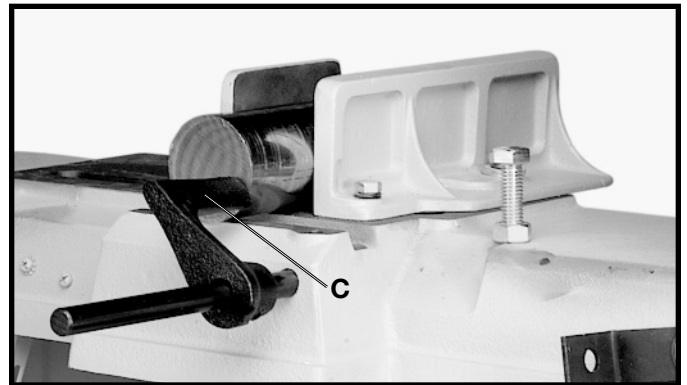

Fig. 27
For cuts when the work will not extend beyond the table, the stop (C) Fig. 27, can be turned around, as shown, to contact the workpiece.